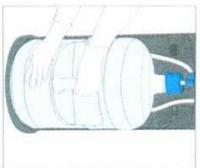

Figure 9-1
9. Slide bottle into cabinet and close the door (fig.9-1 to fig.9-3) (slide door downwards to close)